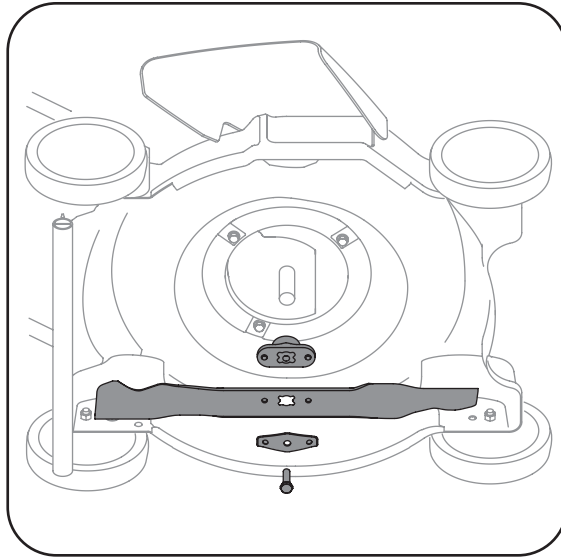

Figure 5-3
2. Remove the bolt and the blade bell support which hold the blade and the blade adapter to the engine crankshaft. See Figure 5-3.